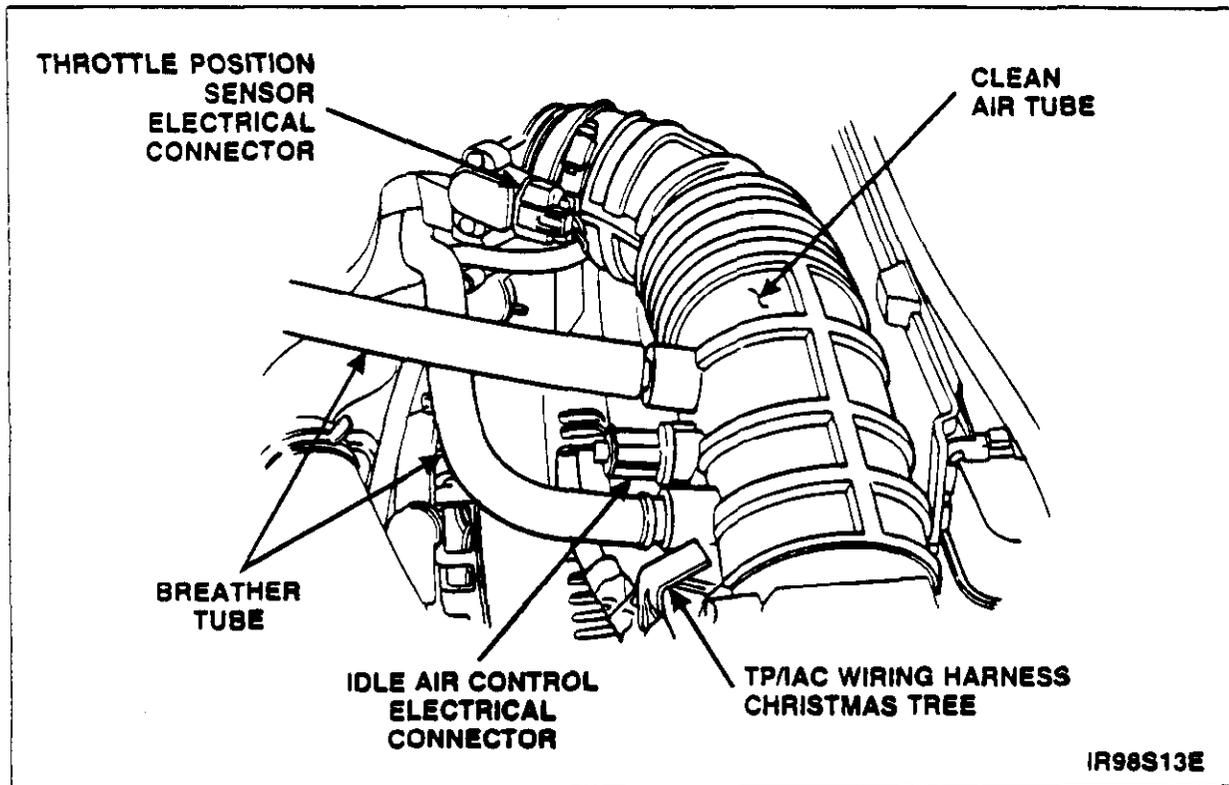

**FIGURE 8**
- Disconnect speed control cable ball from slot in servo rotor. See Figure 8.